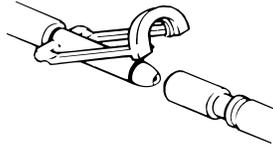

Figure 48 – Clik-Tite open
- b. If you have Clik-Tite hoses, make sure that the connectors and clamps are open (Figure 48).